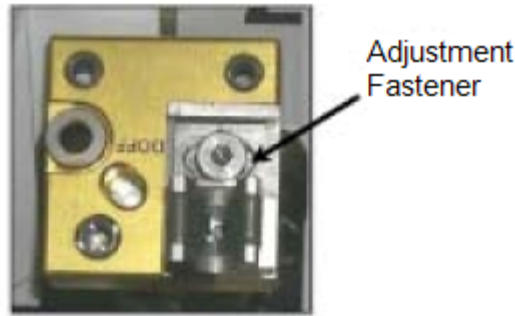

Figure 6. K-BAR Capture Mechanism, Located on LAB Standoff.
Refer to Figure 6.
* Refer to Figure 6.